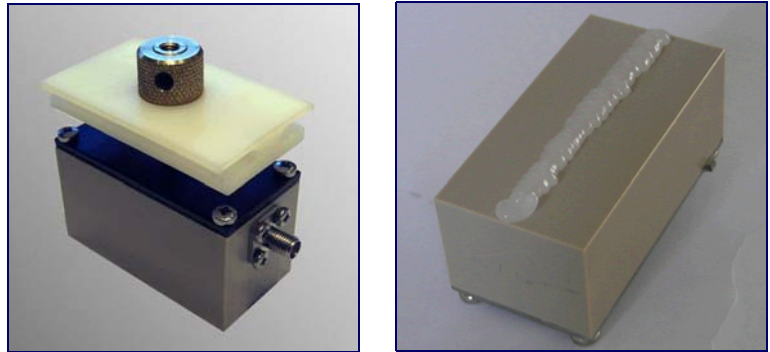

**Figure 2.6**
2. Position the guide rail horizontally on the pipe at 45° to the horizontal and secure it in position using the stainless steel banding as shown in Figure 2.6.